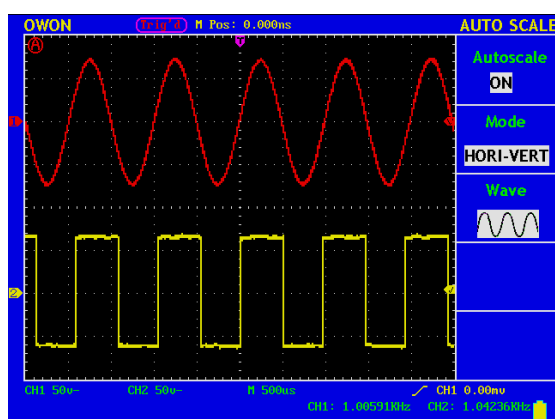

Fig.54: Multi cycles mode
4. Press **F3** to choose  and press F3 to change to . See Fig.54/55 for details.